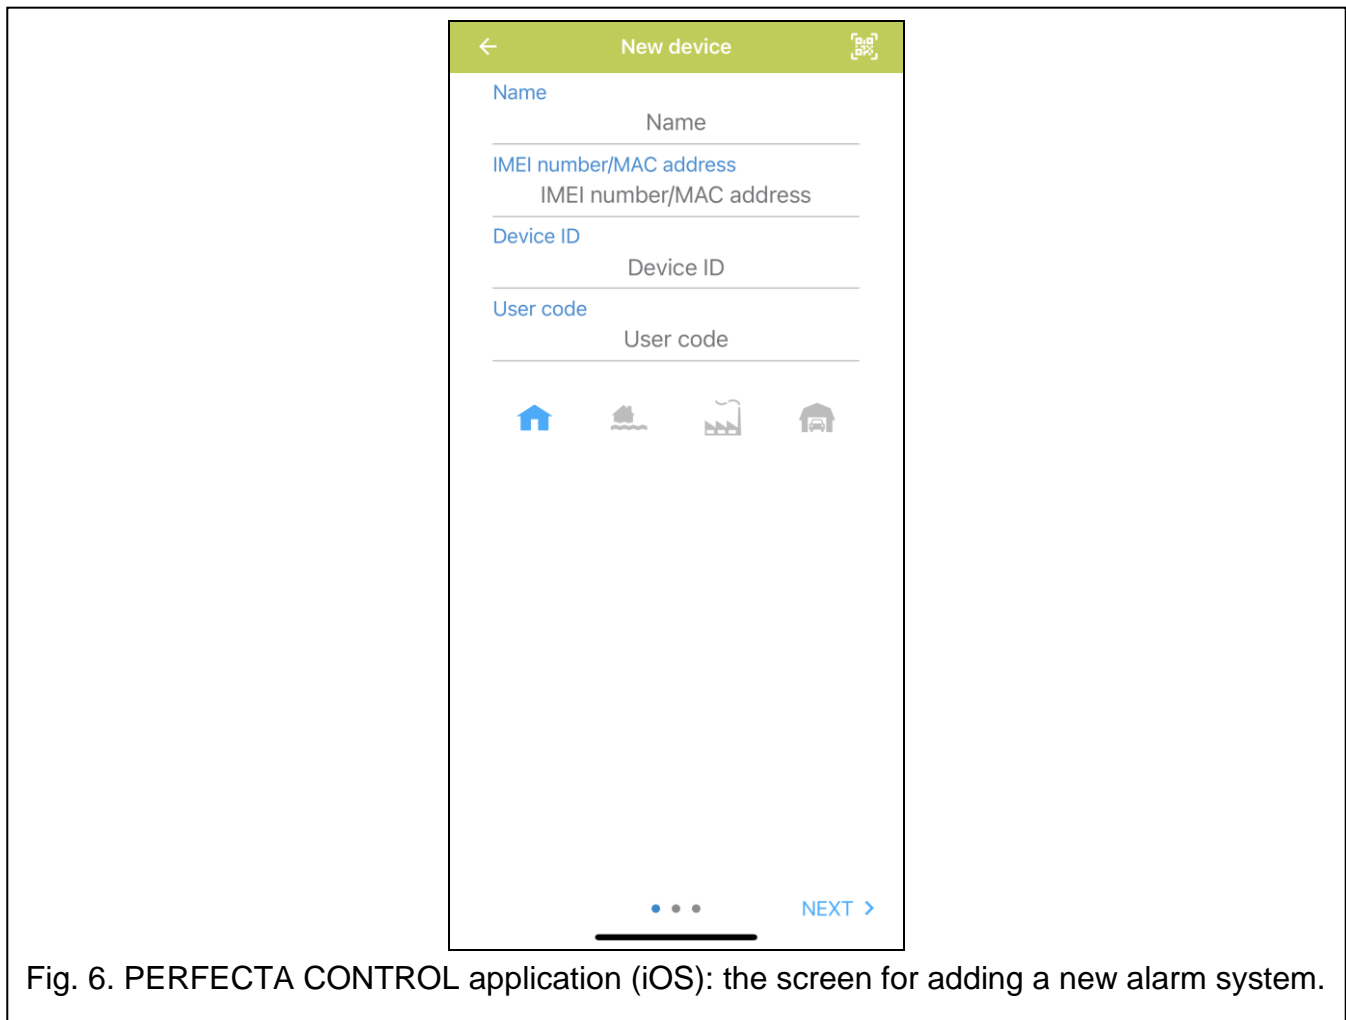

Fig. 6. PERFECTA CONTROL application (iOS): the screen for adding a new alarm system.
4. The screen for adding a new alarm system will be displayed (Fig. 6).